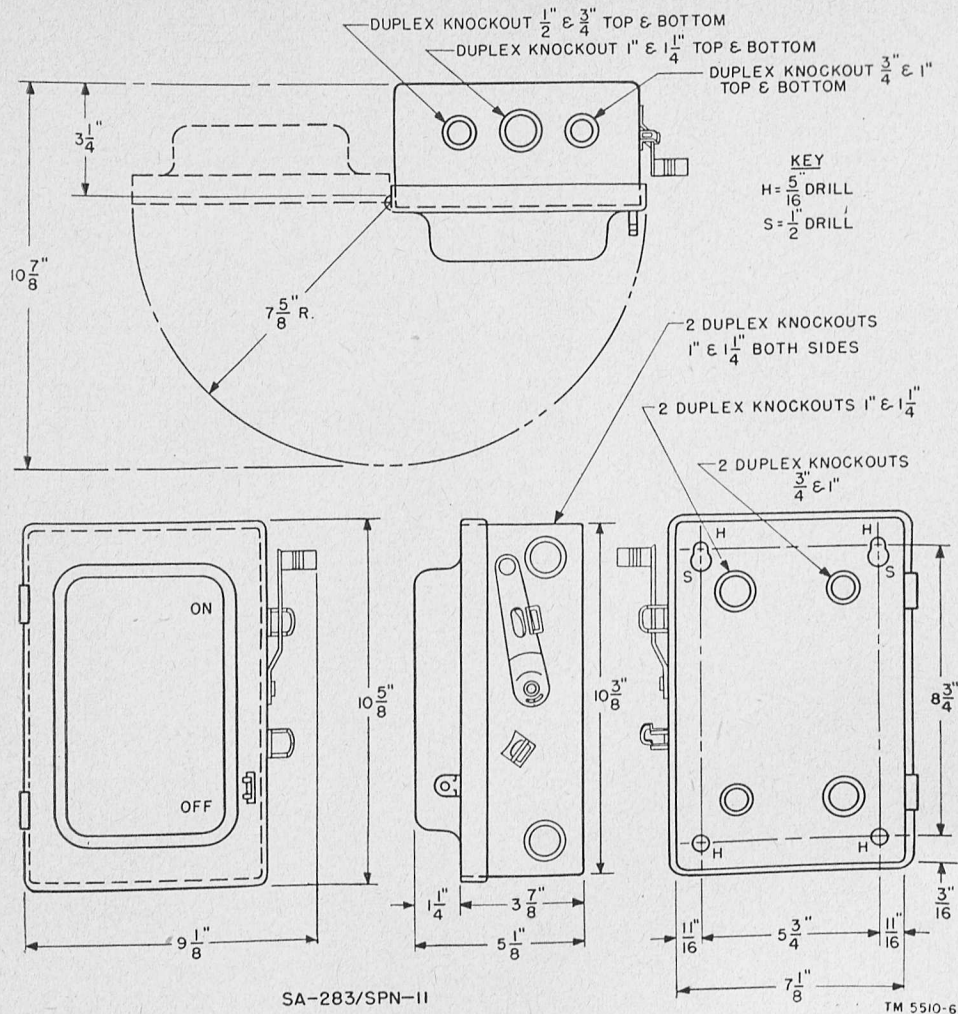

Figure 32. Switch Box SA-283/SPN-11, dimensional drawing.
b. Switch Box. Leave enough clearance space for the hinged front cover to swing open (fig. 32 or 33). The exact dimensions of the front cover depend on the switch box in use. Install the switch box as close as possible to the motor starter and motor generator.
- (1) Drill four $\frac{3}{4}$ -inch holes in the bulkhead (fig. 32 or 33). Locate the lower pair of holes approximately 62 inches above the deck level.
- (2) Fasten the switch box to the bulkhead with four $\frac{3}{16}$ -inch roundhead screws. These screws must be long enough to extend at least one-half inch beyond the opposite side of the bulkhead plate.
- (3) Remove the two knock-out plugs which